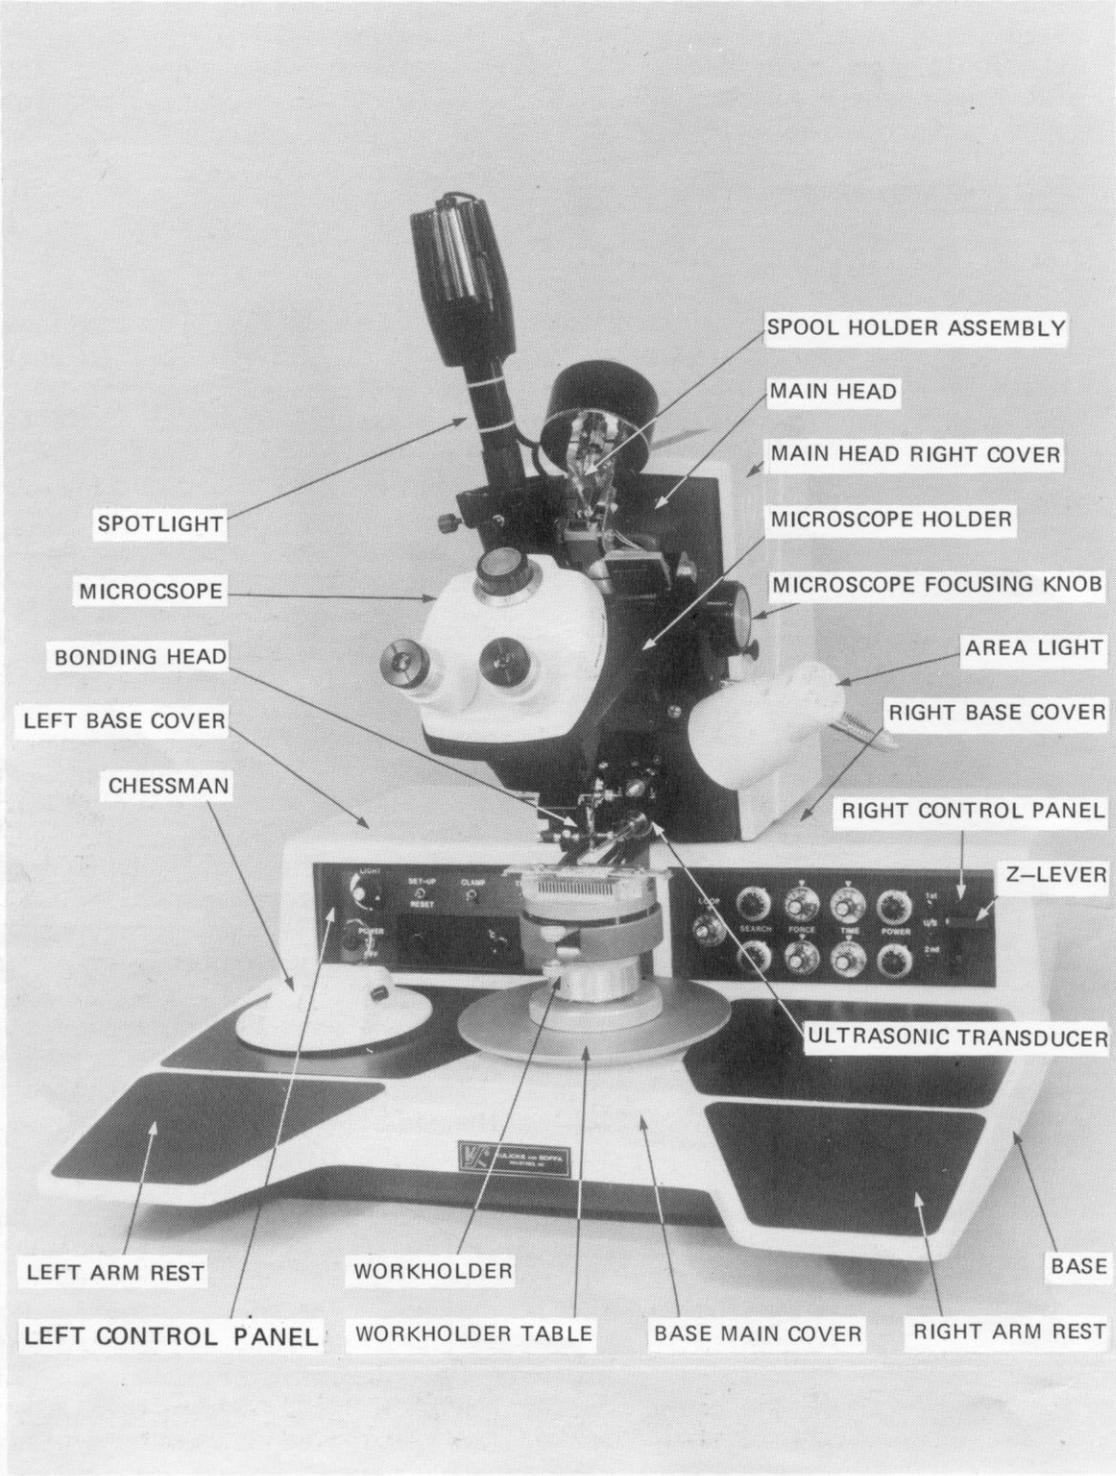
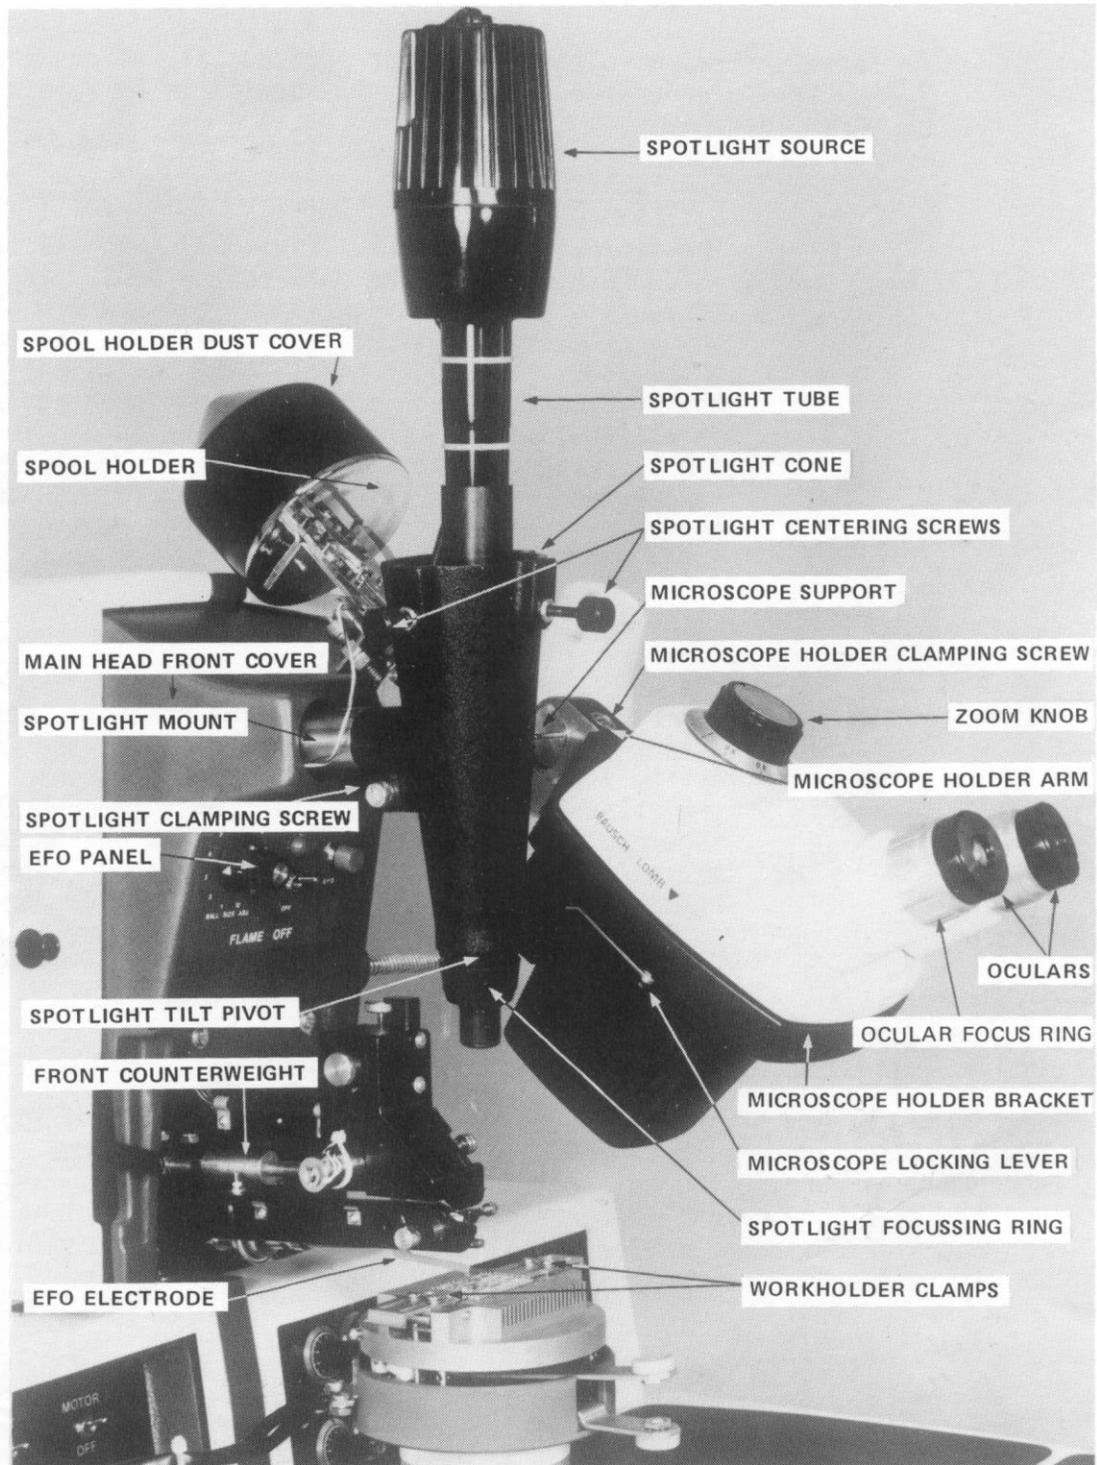
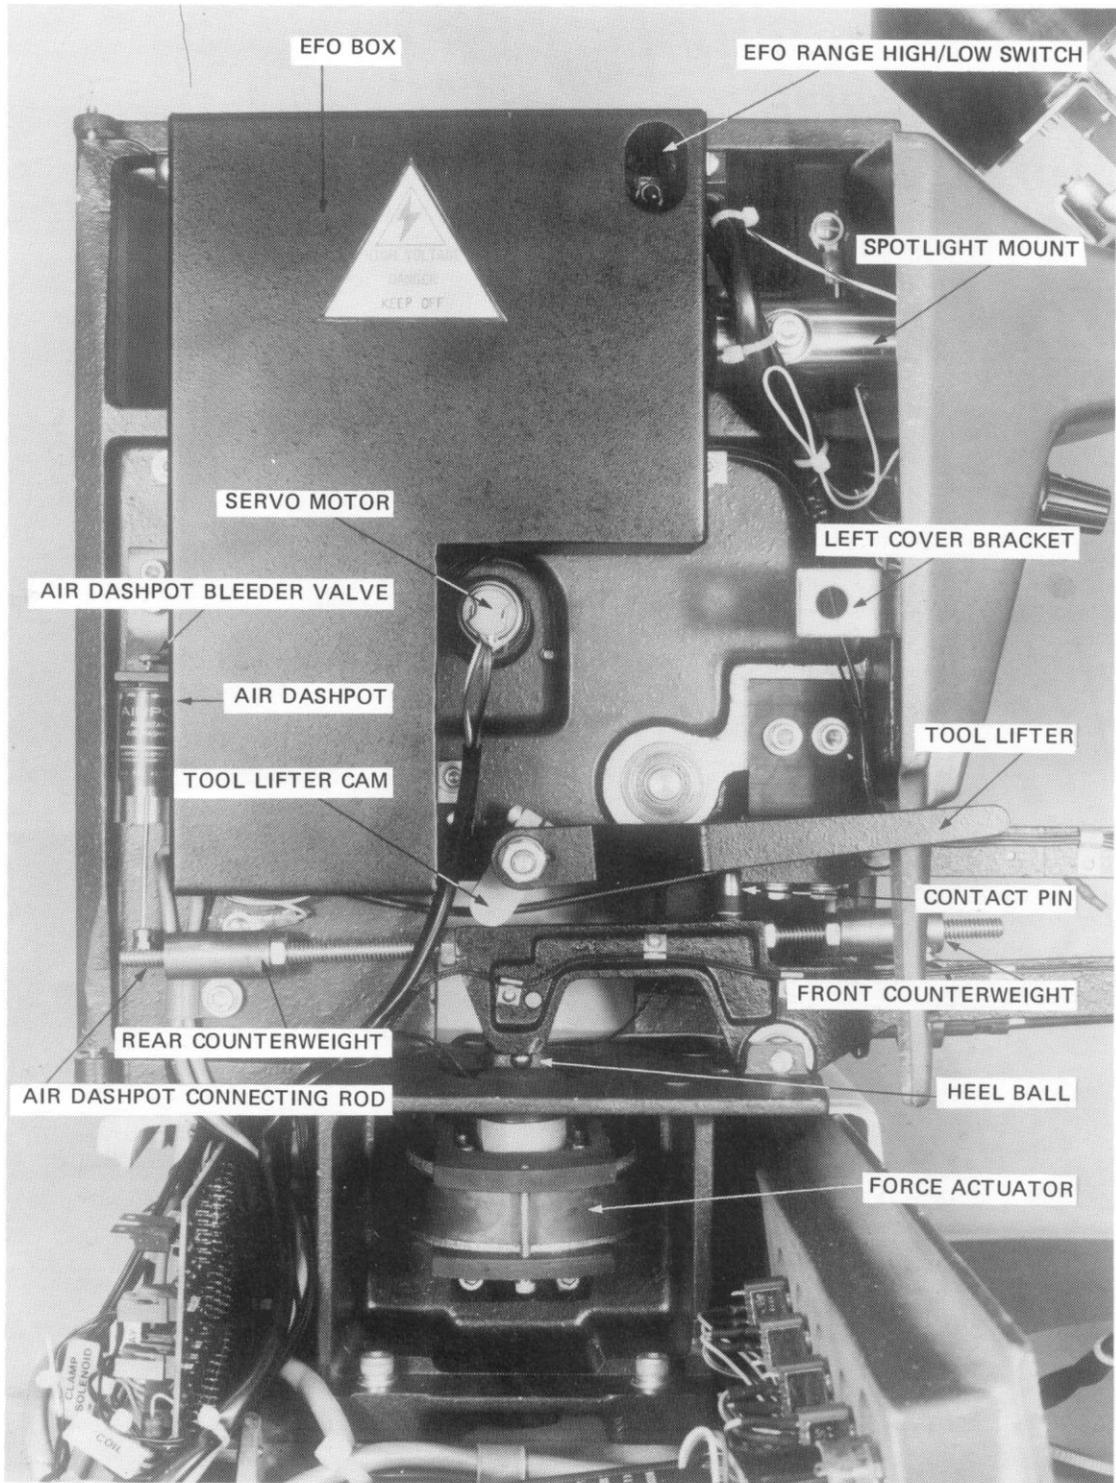
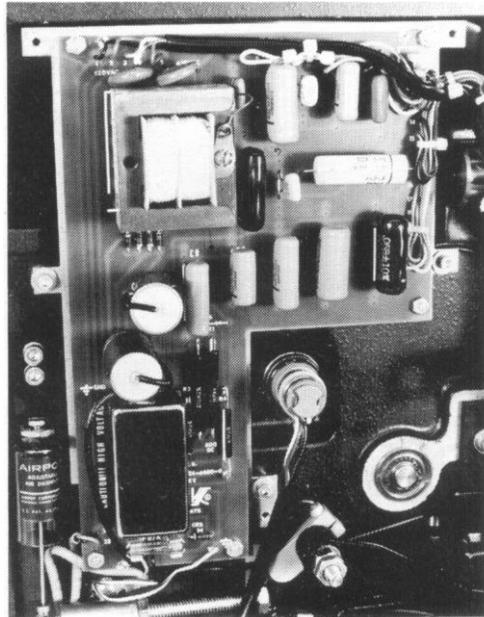

FIGURE 3-1 MODEL 4124 BALL BONDER – MAIN PARTS
FIGURE 3-2 MODEL 4124 BALL BONDER – FRONT PARTS
FIG. 3-9 MAIN HEAD - INNER LEFT SIDE
FIG. 3-13 EFO BOX (COVER REMOVED)
3.1 BONDING PARAMETERS' CONTROLS consist of nine dials in the right control panel (Fig 3-1, 4-2) and a U/S POWER HIGH/LOW switch on the logic board (base back-cover) (Fig 4-3). This switch selects the range of ultrasonic power provided by the built-in ultrasonic generator. The high range is for thicker wires of 2-3 mils (51-76 microns); the low range is for thinner wires of 0.7 – 2 mils (18-51 microns).
3.2.1.1 SPOTLIGHT (optional) (Fig 3-1, 3-2). The spotlight is mounted at a slight angle to the vertical so that it can project its target pattern under the tip of the capillary. The tubular spotlight MOUNT is fastened to the left side of the MAIN HEAD (Fig 3-2). The spotlight is made up of the SOURCE, TUBE and CONE.
3.2.1.2 AREA LIGHT (Fig 3-1) illuminates the work area. It is fastened to the front of the main head frame by means of a flexible gooseneck. The area light is controlled by the same LIGHT switch as the spotlight. Rotating the switch knob controls the intensity of the area light.
3.2.1.3 STEREO ZOOM MICROSCOPE (Fig 3-1, 3-2) has both common focusing and individual focusing of the left ocular. The microscope can be removed from its holder bracket by releasing two locking levers. The microscope focusing mechanism forms part of the microscope holder arm that is clamped by a pin to the tubular microscope SUPPORT on the right side of the main head. Wide field zoom viewing and inter-ocular spacing adjustment are also incorporated. Two LOCKING LEVERS secure the microscope to its holder bracket.
- 3.3.1.1 COUNTERWEIGHTS (Fig 3-9) are brass cylinders threaded onto horizontal rods on the bonding head. The FRONT COUNTERWEIGHT is mounted right above the transducer stem. The REAR COUNTERWEIGHT is mounted on the AIR DASHPOT CONNECTING ROD.
- 3.3.1.2 AIR DASHPOT (Fig 3-9) is an adjustable pneumatic shock absorber that damps the motion of the bonding head. The cylinder is mounted on the main head frame. The piston is connected by ball joint to the AIR DASHPOT CONNECTING ROD.
Tracking force (F3) and Constant force (F4) are set at the factory. The Tracking force overcomes the air dashpot incidental braking action during descent of the bonding head to SEARCH position and keeps the LEVELING SCREW in contact with the CONTACT PIN (Fig 3-9).
- 3.3.3.1 CONTACT PIN MECHANISM (Fig 3-9) maintains electrical contact between the bonding head and the height control link until the descending capillary is stopped by the bonding surface. The height control cam (Fig 3-9) continues to revolve to OVERTRAVEL position, tilting the height control link forward independent of the bonding head.
- 3.3.5 TOOL LIFTER (Fig 3-9) enables the operator to raise the front end of the bonding head manually for threading wire, replacing capillary, or protecting the capillary when not in use. Raising the handle causes its cam to engage and lower the rear part of the bonding head, causing the capillary to rise.
The ELECTRONIC FLAME-OFF system (EFO) generates the spark that melts the end of the wire tail, forming a ball. The system consists of a power supply circuit board in the main head (Fig 3-13, 11-9), a movable electrode actuated by a solenoid, and a BALL SIZE ADJ. selector on the EFO panel (Fig 3-2, 4-4). The EFO circuit charges the electrode to a high dc voltage (Section 11). A signal from the logic board activates the EFO solenoid, which tilts the electrode toward the capillary (Fig 3-8). As the electrode tip approaches the wire, a spark passes between electrode and wire, melting the end of the wire and forming a ball. The logic then turns off the EFO solenoid, and a return spring retracts the electrode. An additional EFO RANGE HIGH/LOW switch on the EFO circuit (Fig 3-9, 3-13) selects power range per wire diameter.
NOTE: An auxiliary EFO RANGE HIGH/LOW switch located on the EFO board (Fig 3-9, 3-13) matches the EFO power to the wire diameter range group: LOW when under 2 mils (51 microns), and HIGH when over 2 mils.